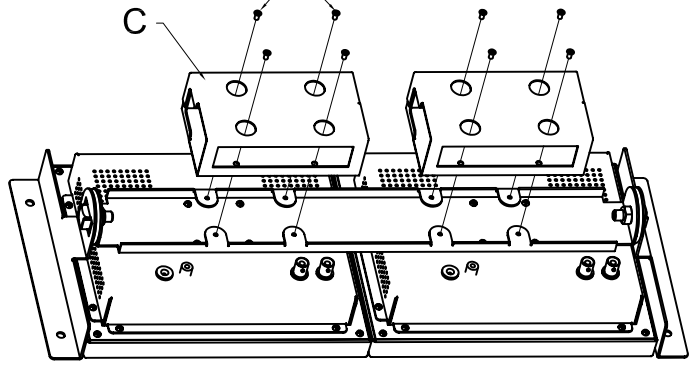

FIG. 6
5. Assemble two Power Adapter Housings on Back bar, use M3 flat head screw "D", 8 pieces, see Fig.6